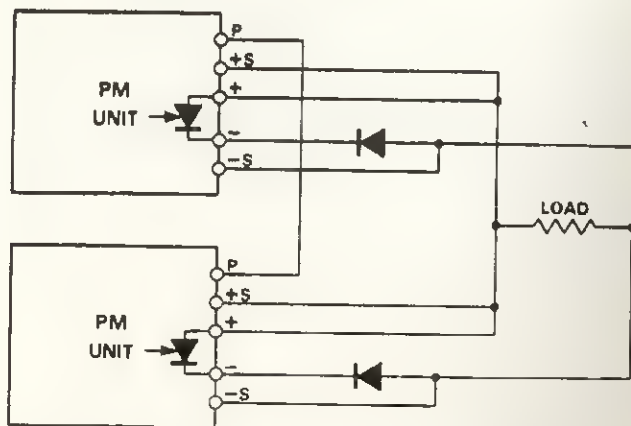

Fig. 9 Parallel Operation with Overvoltage Circuits Fitted
NOTE When units are connected in parallel the built-in thyristor of the optional overvoltage circuit in each unit must be made inoperative because it is not possible to ensure that each thyristor will have an equal share of total current under fault conditions unless connected as shown in Fig. 9. This is done by removing the gate connection of the thyristor either at the thyristor itself or at the overvoltage PC board (terminal 3).
Units should be connected as shown in Fig. 9 under the conditions as follows:—
- Link the sensing terminals as shown in Fig. 9.